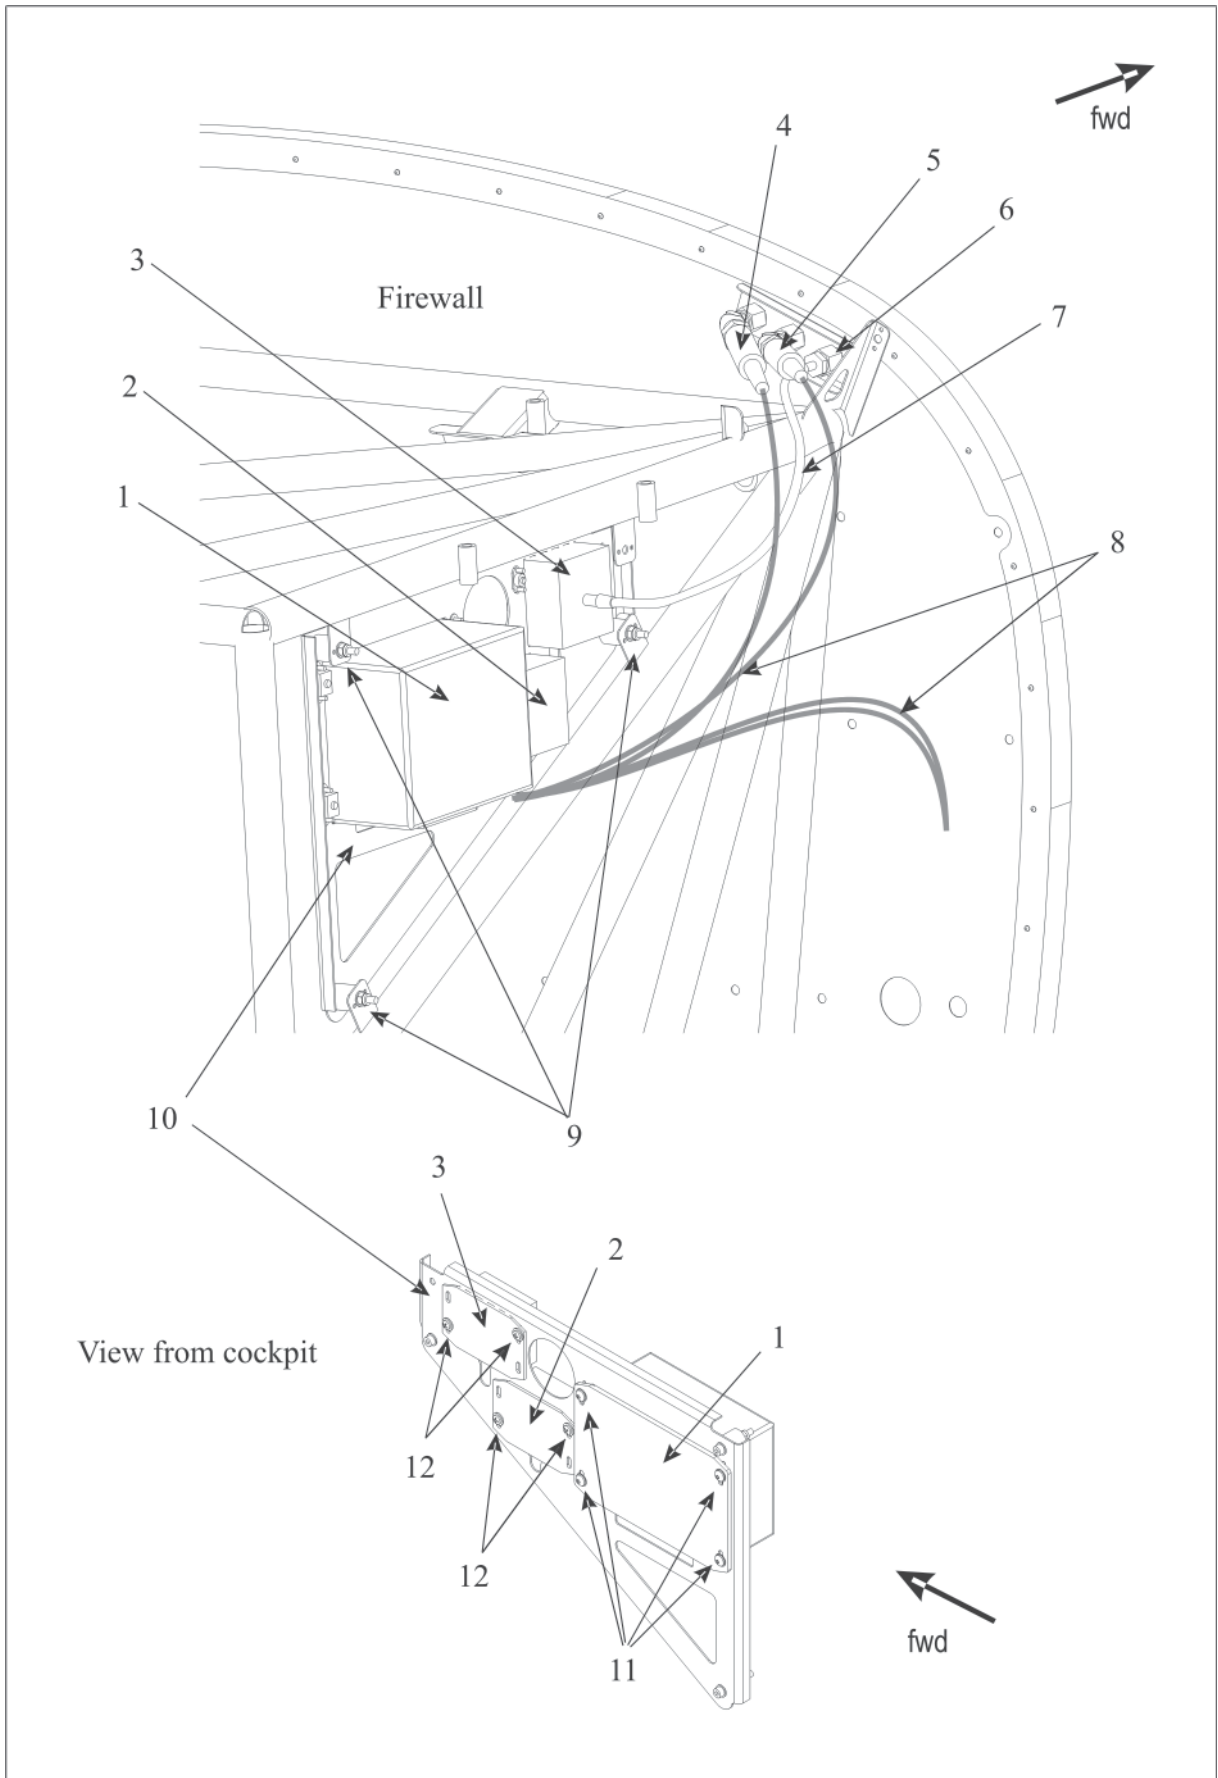

Figure 5
To carry the electronic data converter (1, Figure 5) and two modules (2 - 3) a mounting sheet (10) is installed on the right side of the fuselage just behind the firewall.
- 2 Remove the electronic data converter (1, Figure 5) and the modules (2 - 3) as per following sections.
- 3 Remove the attachment bolts and shock mounts (9) and remove the mounting sheet (10).
- 2 Disconnect the electrical wiring (8) from the electronic data converter (1, Figure 5).
- 3 Remove the attachment bolts (11) and remove the electronic data converter (1).
- 2 Disconnect the electrical wiring (8) and/or tubing (7) from the module (2 or 3, Figure 5).
- 3 Remove the attachment bolts (12) and remove the module (2 or 3).
The oil (4, Figure 5) and fuel (5) pressure transducers are screwed to the respective fittings on the firewall.